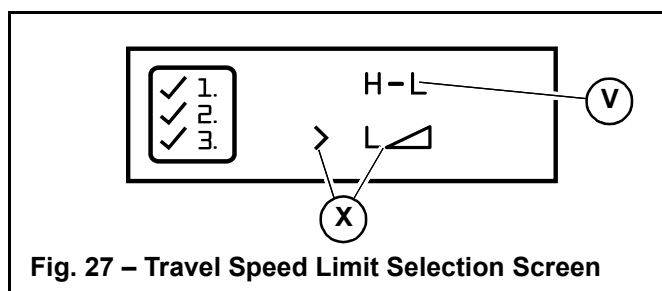

Fig. 27 – Travel Speed Limit Selection Screen
3. Press and release the interface button until the selection caret points to the travel speed limit selection (X, Fig 27). Press and hold the interface button for 5 seconds.
Travel speed limit option deactivation is identical to activation, with the exception of moving the selection caret to the “H-L” selection (V, Fig 27).